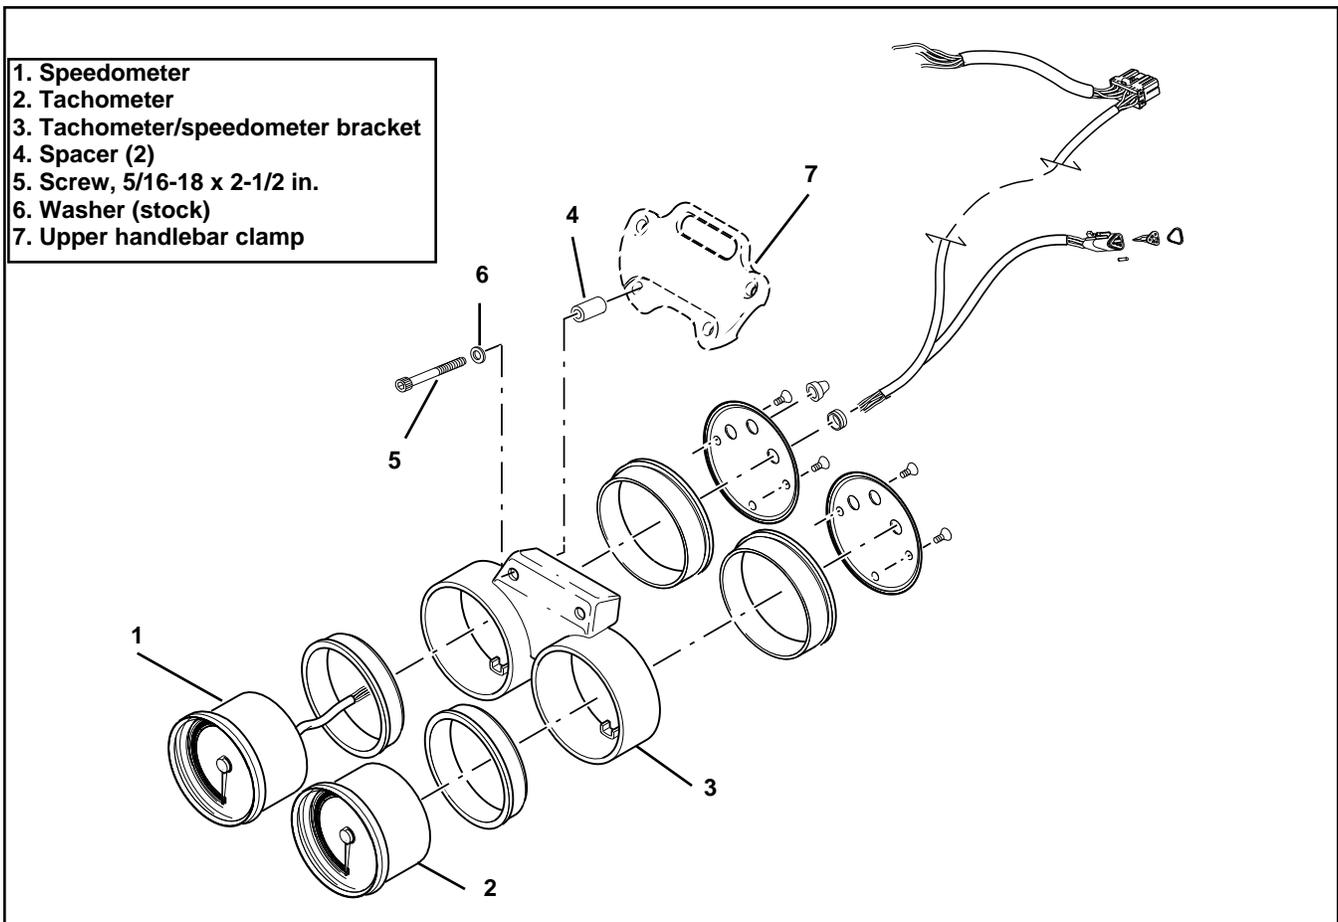

Figure 9. Exploded View Of Speedometer And Tachometer Installed In Double Bracket
- See Figure 9. Feed wires from speedometer through front of left opening in double bracket. Lubricate the front and
7. See Figure 9. Install speedometer/tachometer assembly on handlebar clamp as shown using spacers and fasteners from kit. Tighten screws "snug-tight".
1. See Figure 9. If necessary, adjust the handlebar to the rider's normal position. Hold the handlebar and loosen rear clamp bolts. Position and adjust handlebars and tighten rear screws to 12 - 15 ft.-lbs.